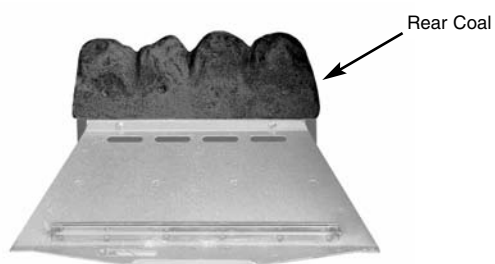

Fig. 22
1. Place the rear coal on the rear coal retainer ledge in a central position (Fig. 22).